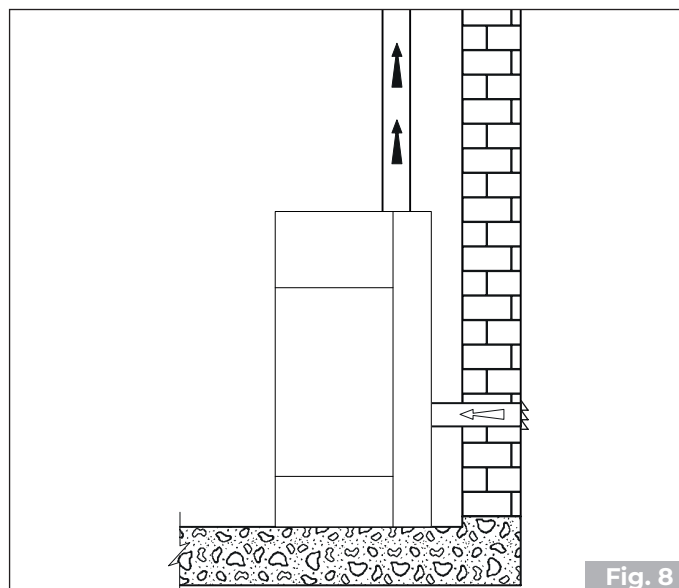

Fig. 8
- it can come directly from outside with direct connection to the combustion chamber (**Fig. 8**).
- connect the combustion air inlet of the appliance to the air intake using a special pipe (**Fig. 8**).